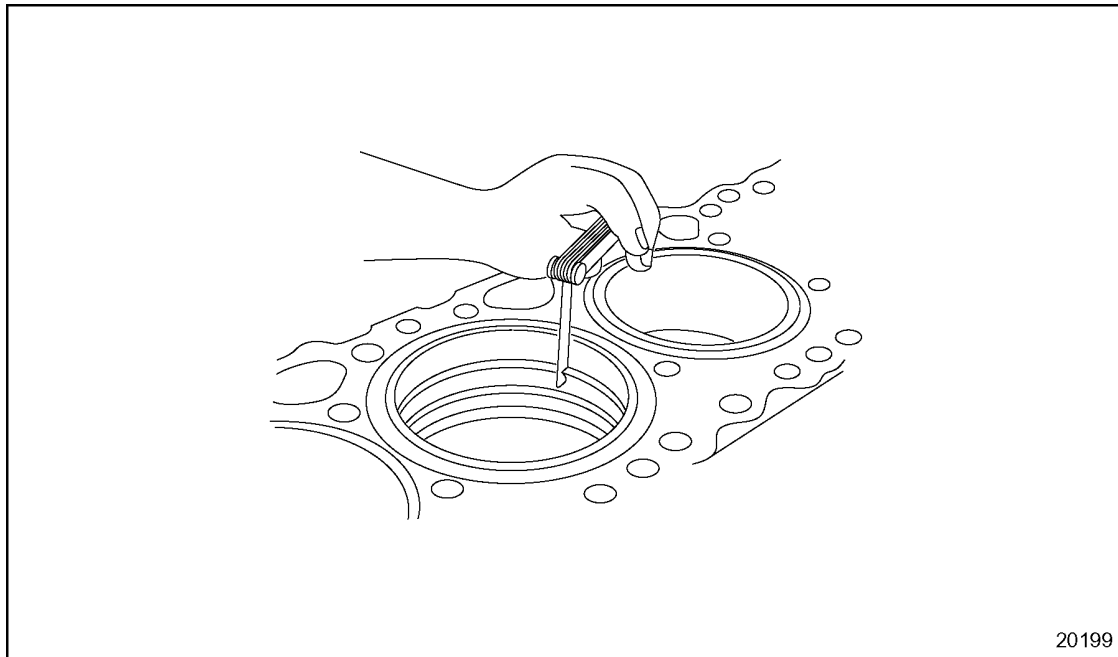

Figure 1-234 Piston Ring Location
- 3. After the three rings have been positioned in the liner, measure the ring gap of the top ring with a feeler gage. See Figure 1-234. Remove the ring from the liner after the measurement is complete.